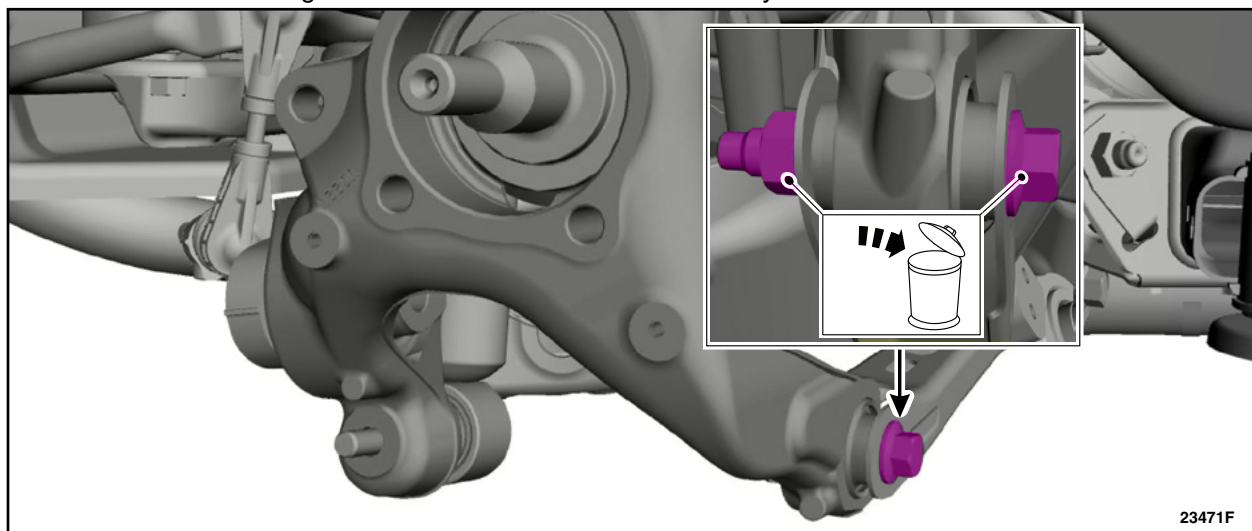

FIGURE 8
12. Remove and discard the LH rear toe link-to-wheel knuckle bolt and nut. See Figure 8.